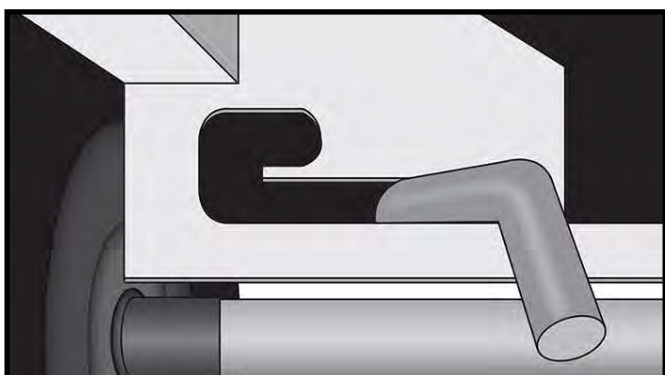

Figure 22: First-Generation Cart Brake Lever Position for Drive System Operation
- When using the cart's drive system, the brake lever (located between the wheels on the side opposite the tow handle) should be in Position A (Figure 22).